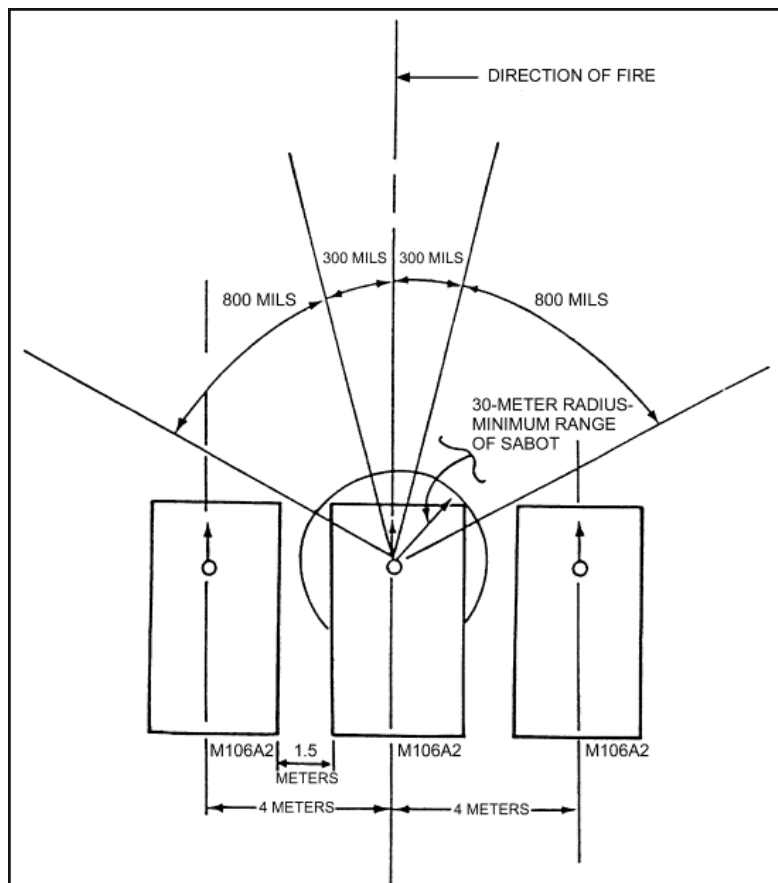

Figure A-18. Large deflection changes.
(1) Sometimes it is desirable for gunners to observe the impact of the sabot. However, mortars are usually mounted in a defilade position so that a mask exists between the impact area and the firing position. If such a mask does not exist, one can be constructed of target cloth or other suitable material. The mask must be removed when firing direct lay missions.
(2) A heavy canvas or other suitable material should be placed on the ground to a distance of 15 meters in front of each mortar to catch the sabot. On a permanent sabot range, it is desirable to construct a permanent impact area for the sabot--a sawdust or sandpit covered with heavy canvas would be ideal.
(3) When positioning the mortars, the lateral distance between the center of the baseplates should not exceed 4 meters. Special corrections can be applied to fire for effect if the weapons are more than 4 meters apart, but it is unrealistic to habitually apply special corrections during training.
(4) When using the sabot with each of the weapons separated by 3.5 to 4 meters, some special techniques must be used. Aiming posts should be identified by squad to preclude a mix-up of aiming posts between two mortars. Numbers, colors, or any other easily discernible method can be used.
(5) Problems can be encountered when traversing carrier-mounted mortars during large deflection changes of more than 300 mils left or right of direction of fire (Figure A-18). The carriers should be traversed to avoid the possibility of hitting adjacent carriers with the sabot. Due to the minimum range of the sabot, it must be fired only over the rear of the carrier with the ramp in the up position.